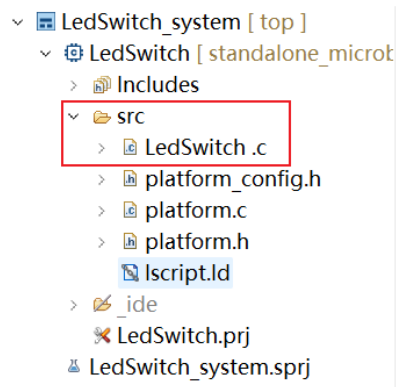

Figure 4.
- As shown in the Figure 4, in **Project Explorer**, expand the **LedSwitch** → **src** folder.